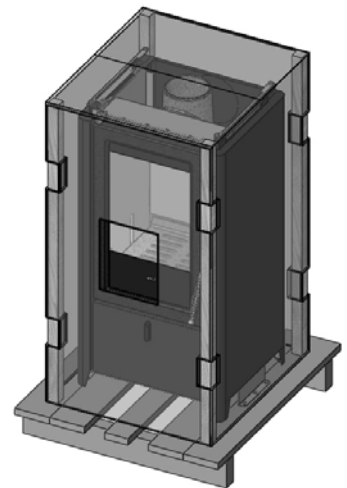

Figure 2 - Bahr stove packaging
- one contains the stove with the sides assembled fig.2